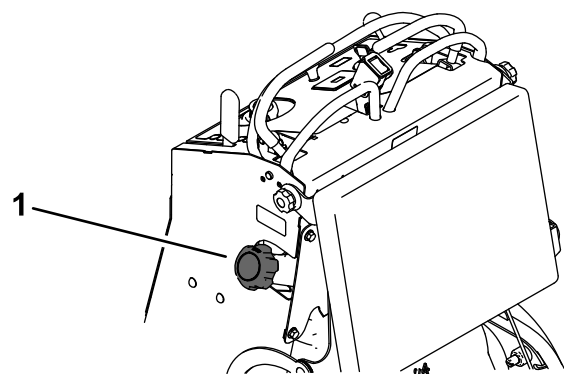

Figure 29
3. Clean around the fuel cap to prevent debris from getting into the fuel tank (Figure 29).
6. Using the syphon pump, drain the fuel into a clean fuel can (Figure 29).